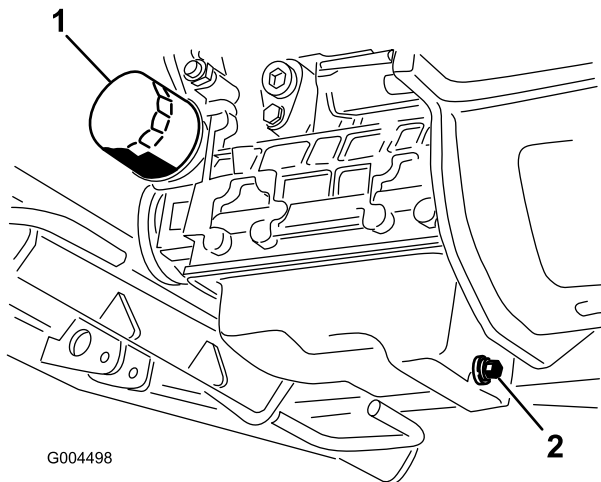

Figure 66
3. Set a drain pan under the oil pan and in line with the drain plug (Figure 66).
6. Remove and replace the oil filter (Figure 66).